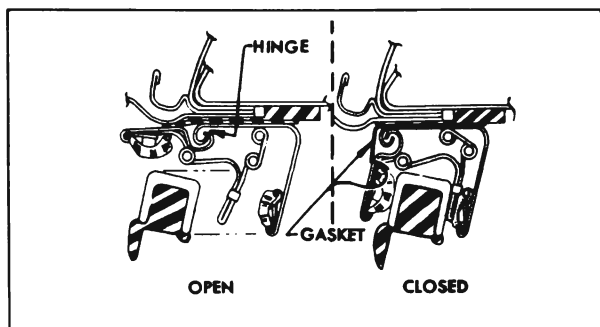

Figure 1-16—Sealing Strip Lubricare
1. Open the door and apply a coat of Lubriplate No. 107 or No. 110 to entire length of hinge indicated in figure 1-16. Wipe off any excess. Do not apply this lubricant to the awning gasket.
2. Close the door and apply a thin coat of “DC-4” Silicone Compound or “DC-7” Silicone Emulsion to both sides along length of the awning gasket indicated in figure 1-16. Wipe off excess compound to avoid accumulation of dust.